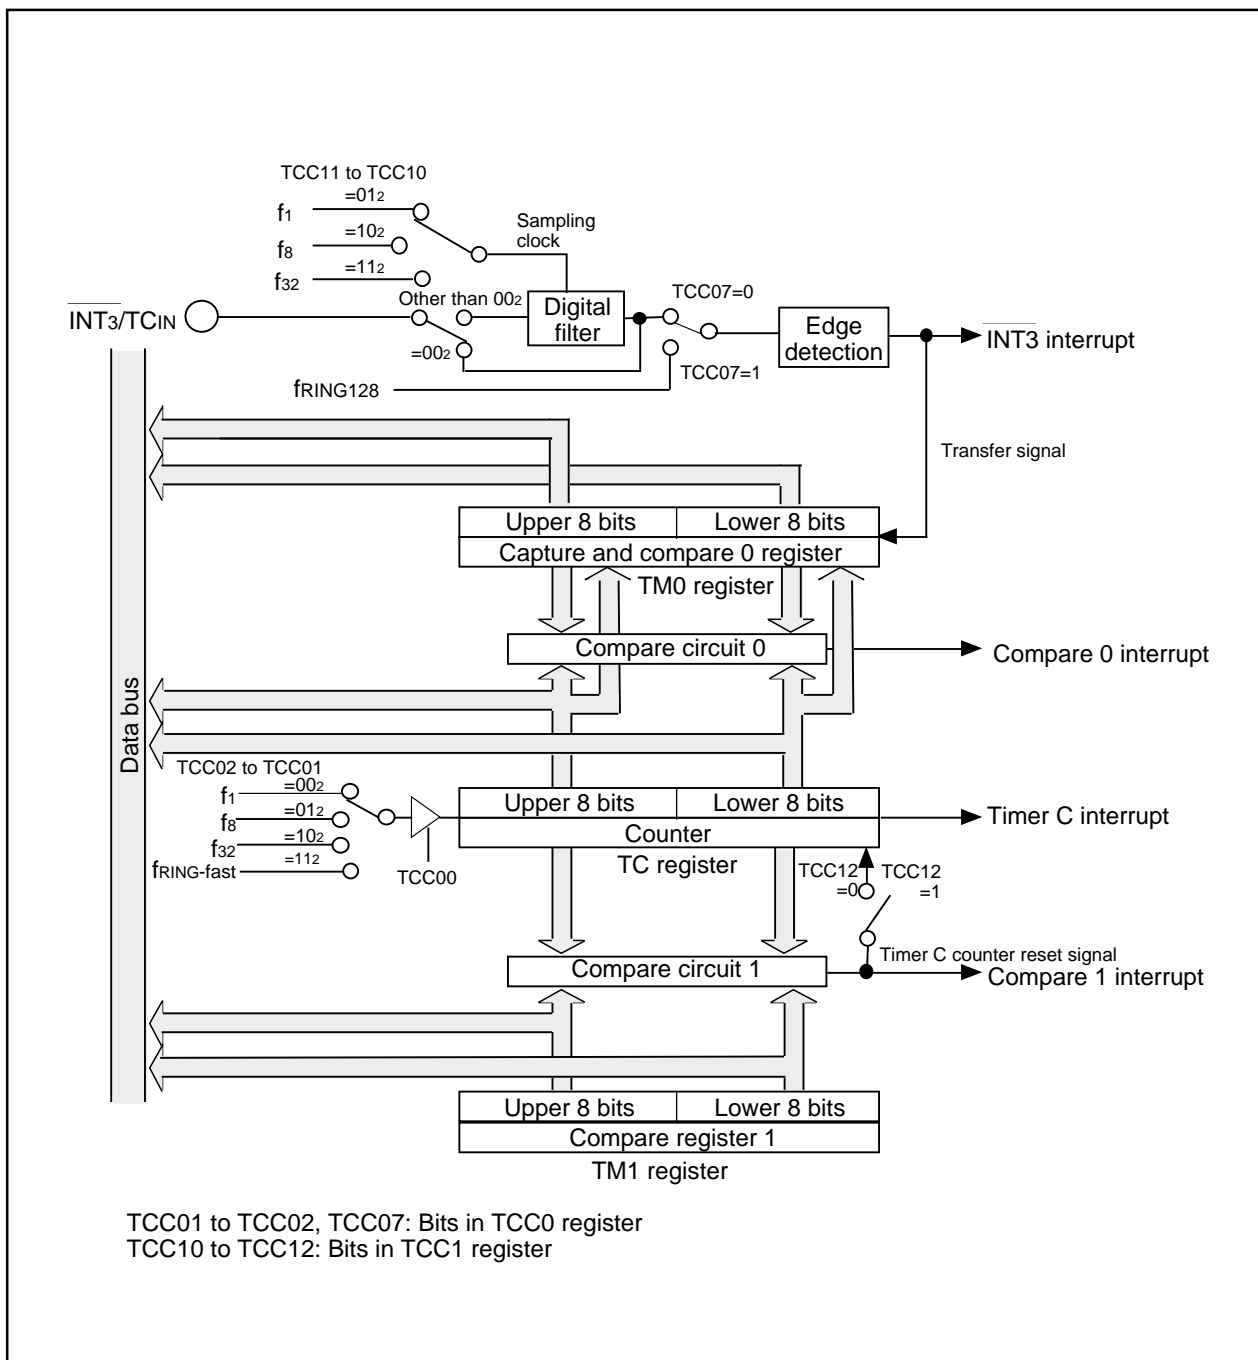
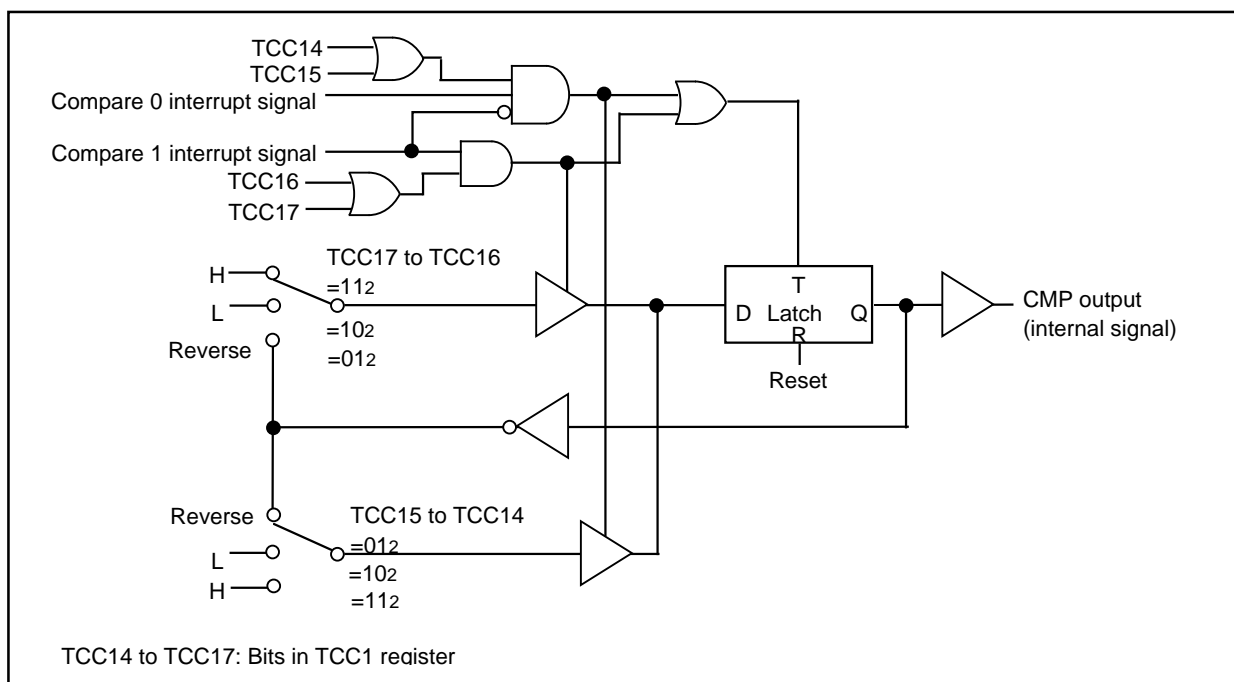
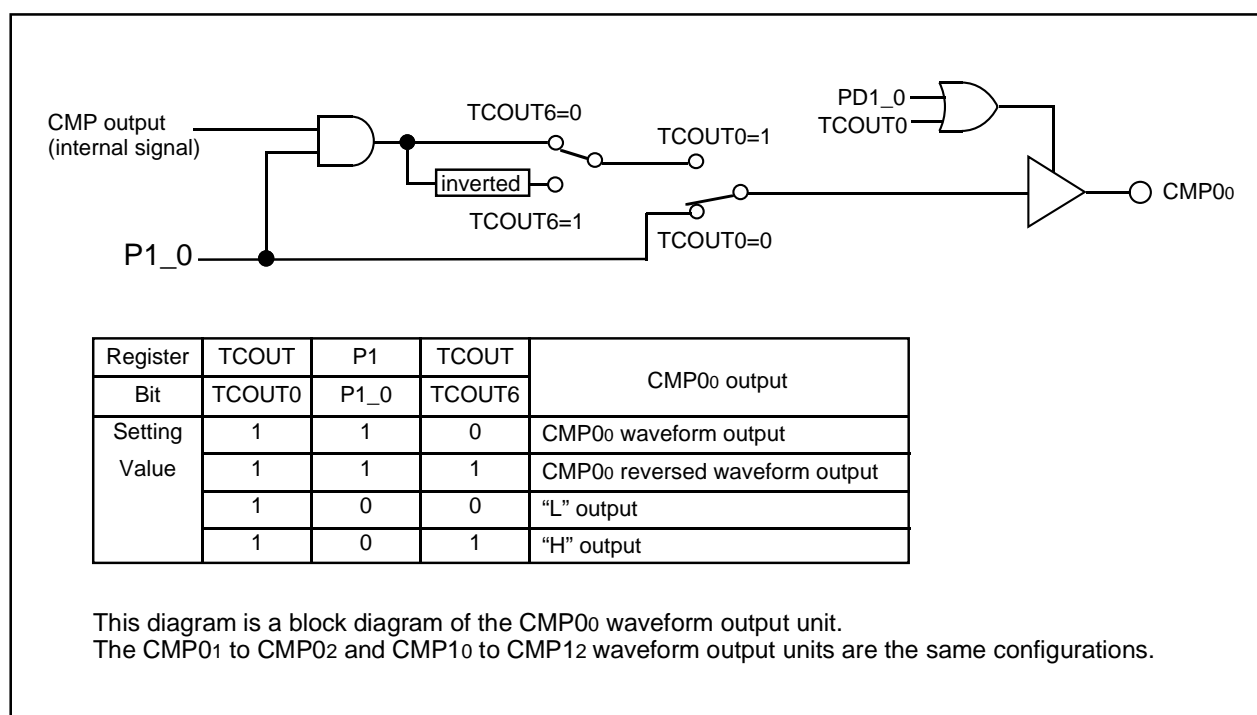

Figure 12.28 Timer C Block Diagram
Figure 12.29 CMP Waveform Generation Unit
Figure 12.30 CMP Waveform Output Unit
Timer C is a 16-bit timer. Figure 12.28 shows a block diagram of Timer C. Figure 12.29 shows a block diagram of CMPs waveform generation unit. Figure 12.30 shows a block diagram of CMP waveform output unit.
2. When the corresponding port data is "1", the waveform is output depending on the setting of the registers TCC1 and TCOUT. When the corresponding port data is "0", the fixed level is output (refer to Figure 12.30 CMP Waveform Output Unit).